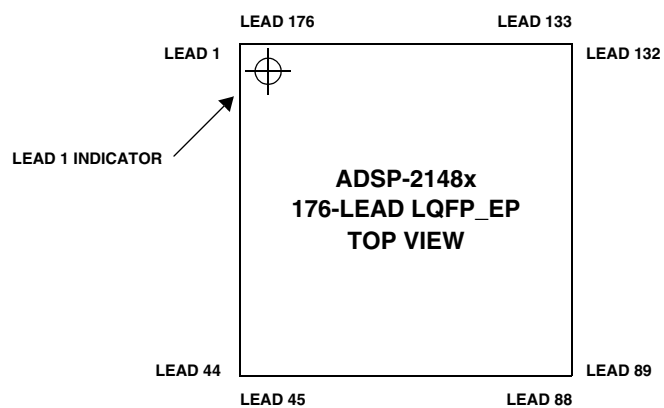

Figure 50. 176-Lead LQFP_EP Lead Configuration (Top View)
* Lead no. 177 is the GND supply (see Figure 50 and Figure 51) for the processor; this pad must be **robustly** connected to GND.
Figure 50 shows the top view of the 176-lead LQFP_EP lead configuration. Figure 51 shows the bottom view of the 176-lead LQFP_EP lead configuration.